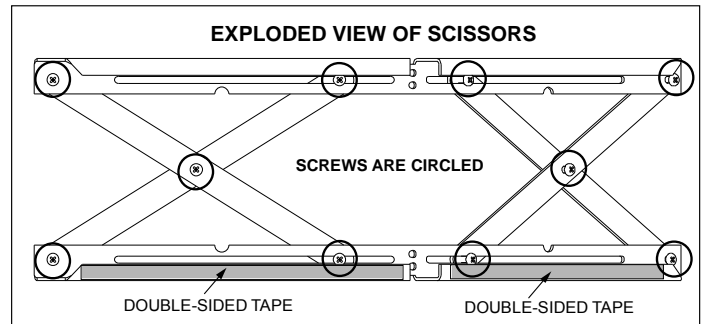

Figure 21.1
1. The 10 screws on each set of scissors will already be loose when shipped. **Figure 21.1.**